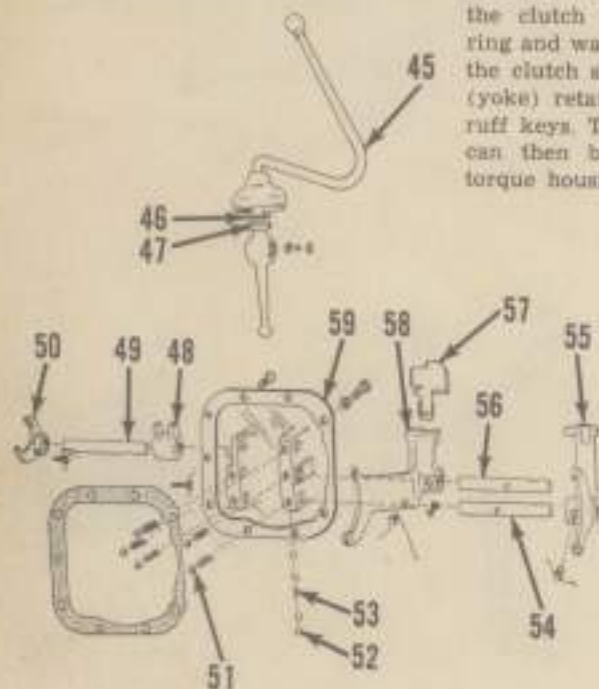

Fig. 114—Exploded view of the D-14 and D-15 transmission shifter assembly and associated parts.
**171. R&R AND OVERHAUL.** The transmission shifter assembly is removed with the transmission cover as follows: Move the shifter lever to the neutral position, remove snap ring (46—Fig. 114) and withdraw shift lever. Using a screw driver or similar tool, shift the transmission into reverse. The transmission cover can then be removed after removing the attaching cap screws.
**NOTE:** The transmission cover (59—Fig. 114) has a screw located in the upper right hand corner of outer face of cover. On shuttle clutch equipped models, this screw is approximately 1-5/16 inches long and is used to lock the reverse gear in neutral position. On tractors equipped with "Power-Director," the hole in the cover is plugged with a short screw.
Disassembly and overhaul procedures for the removed unit are evident after an examination of the unit and reference to Fig. 114.